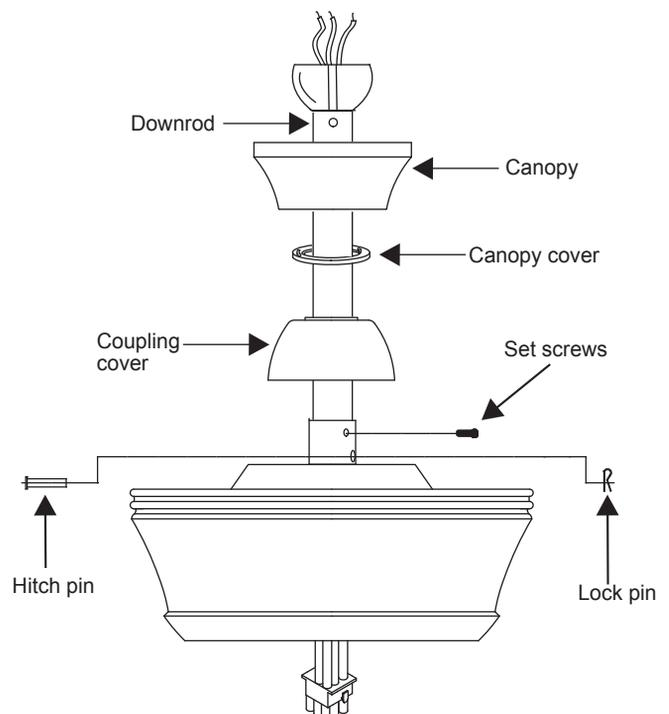

Figure 7
Step 6. Route wires exiting from the top of the fan motor through the canopy cover, canopy and then through the ball / downrod. (Fig. 7)
Step 7. Align the holes at the bottom of the downrod with the holes in the collar on top of the motor housing. (Fig.7) Carefully insert the hanger pin through the holes in the collar and downrod. Be careful not to jam the pin against the wiring inside the downrod. Insert the locking pin through the hole near the end of the hanger pin until it snaps into its locked position. (Fig. 7)
Step 8. Tighten two set screws on top of the fan motor firmly. (Fig. 7)